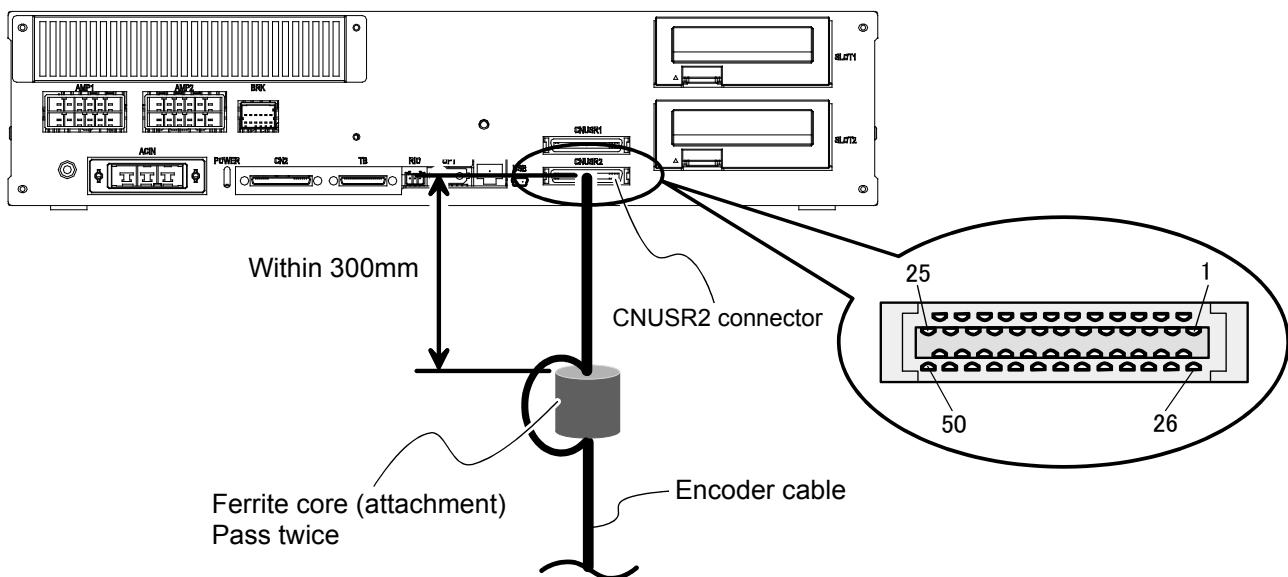

Figure 10-8 Installation of encoder cable (CR751-D series)
- *CR751-D series: "Figure 10-8 Installation of encoder cable (CR751-D series)"